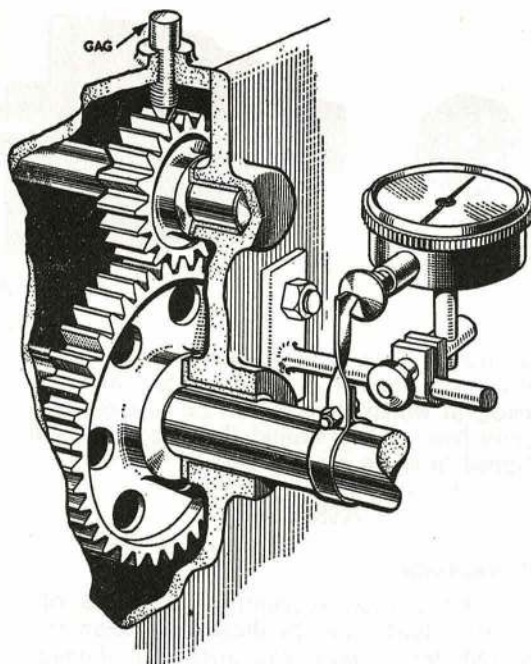

Fig. 14. CHECKING BACKLASH
38. On engines having a gear-driven camshaft it will be necessary to check the backlash between these gears. Sometimes it is possible to measure backlash directly by inserting feeler gauges between the mating teeth, but other methods must be used when the gear teeth are inaccessible; one method is shown at Fig. 14. One of the gear wheels is locked (gagged) by some suitable temporary locking device such as a fibre plug, clamp or wooden wedge. A lever is fixed to the shaft of the mating wheel, its free end bearing on the plunger of a dial test indicator which is fixed to any convenient part of the gear casing. When the second wheel is rocked backwards and forwards, the extent of the movement will be shown on the dial indicator. This movement, corrected if necessary for the length of the lever, will be the amount of backlash. If the length of the lever is equal to the radius of the pitch circle of the wheel, the dial indicator reading will be the actual backlash, but if the length of the lever is twice the radius of the pitch circle the reading must be divided by two, and similarly for other lengths.